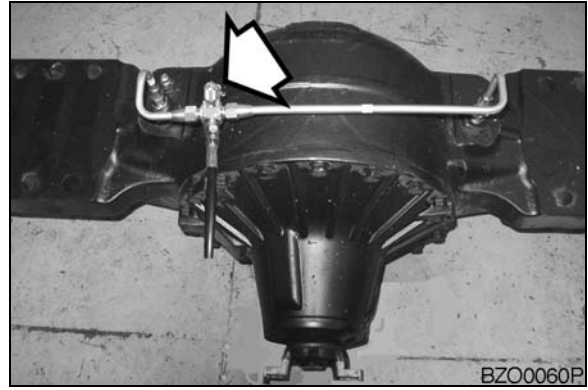

Figure 111
1. Attach gauge to brake pressure test port (Figure 111) on front axle.